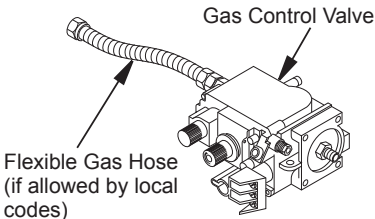

Figure 12 - Attaching Flexible Gas Hose to Heater Gas Regulator
1. Apply pipe joint sealant lightly to male threads of gas fitting (not provided). Connect approved flexible gas hose to inlet side of gas control (see Figure 12).